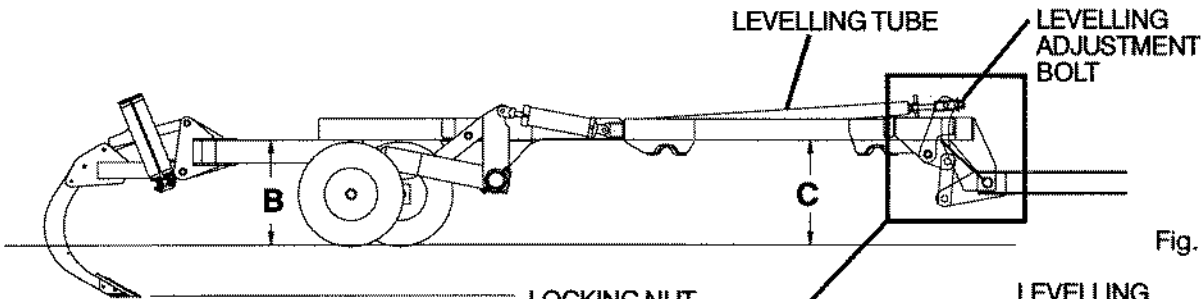

Fig. 3
3. Measure the main frame at location "B" and "C" as shown. (See Fig. 3)